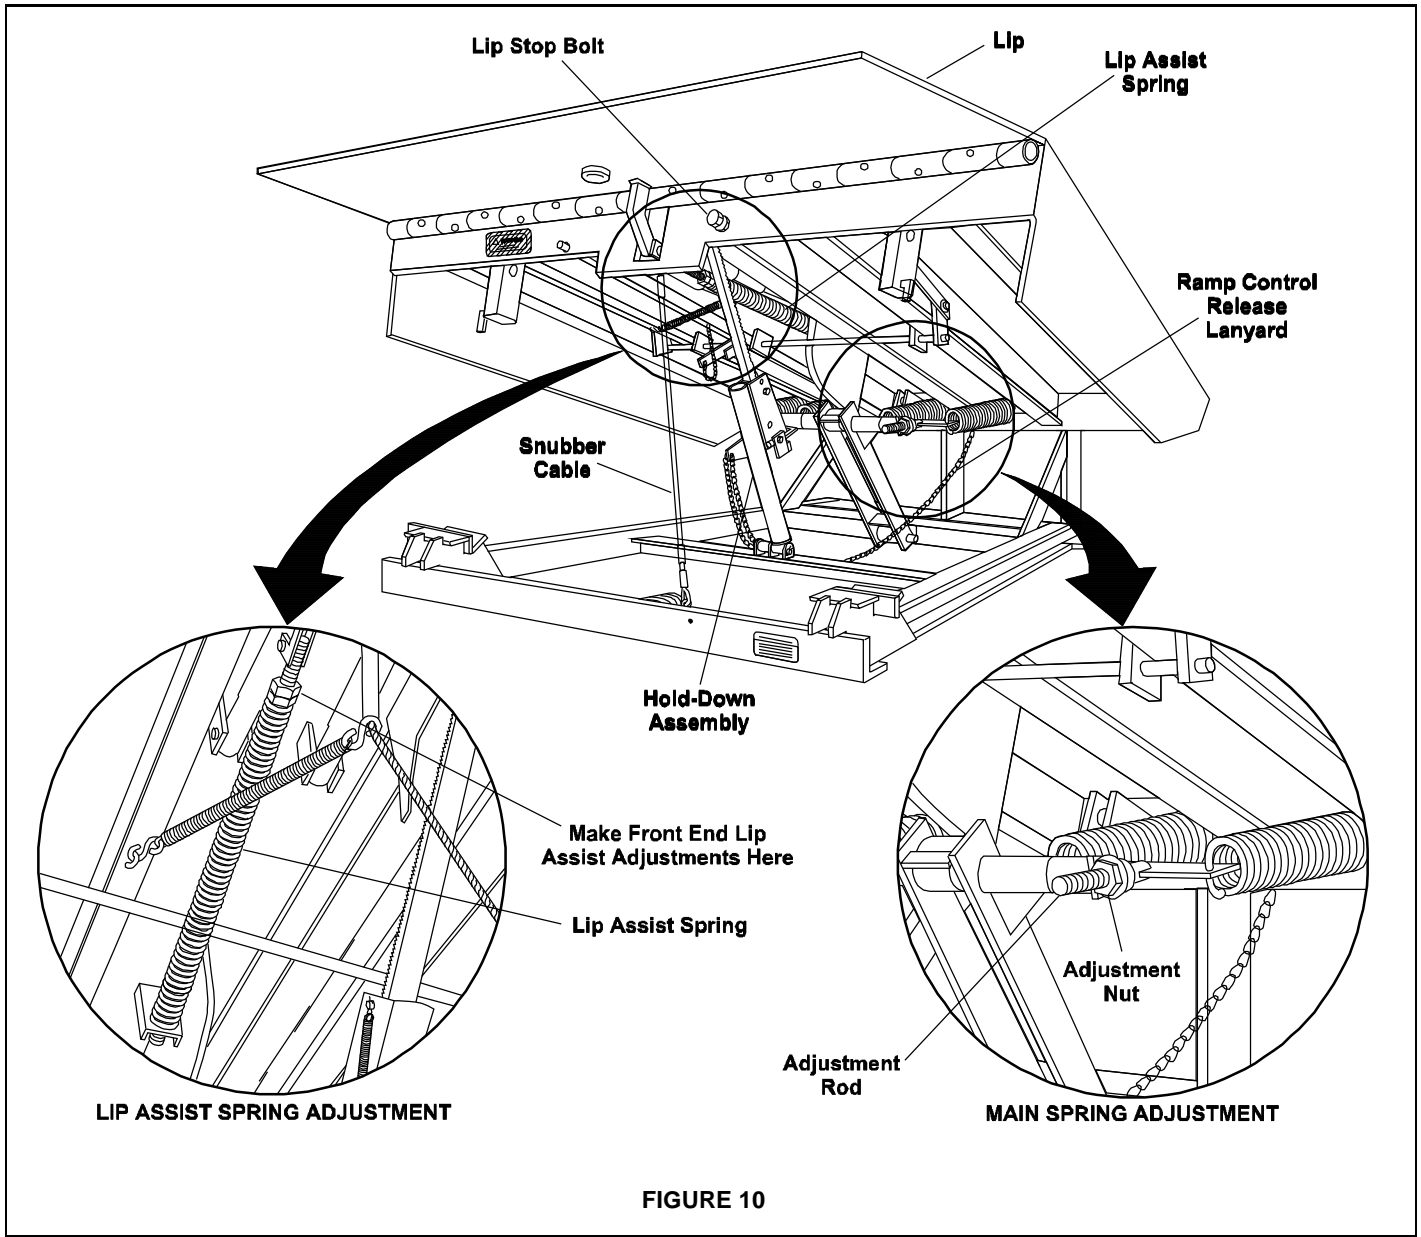

FIGURE 10
2. To adjust the lip assist spring, release the lock nut and advance the adjustment nut clockwise to produce maximum compression on the spring while still allowing the lip to fall. See Figure 10.
3. If the lip does not fully extend at the upper limit of platform travel, increase the tension on the main extension springs, as shown in Figure 10, by advancing the two adjustment nuts on the spring adjustment rod clockwise. Adjustment should be made in small increments equally to each adjustment nut (i.e., 1/2 of a turn at a time on both spring adjustment rods). Continue advancing the nuts until the adjustment is correct as defined in Step 1.